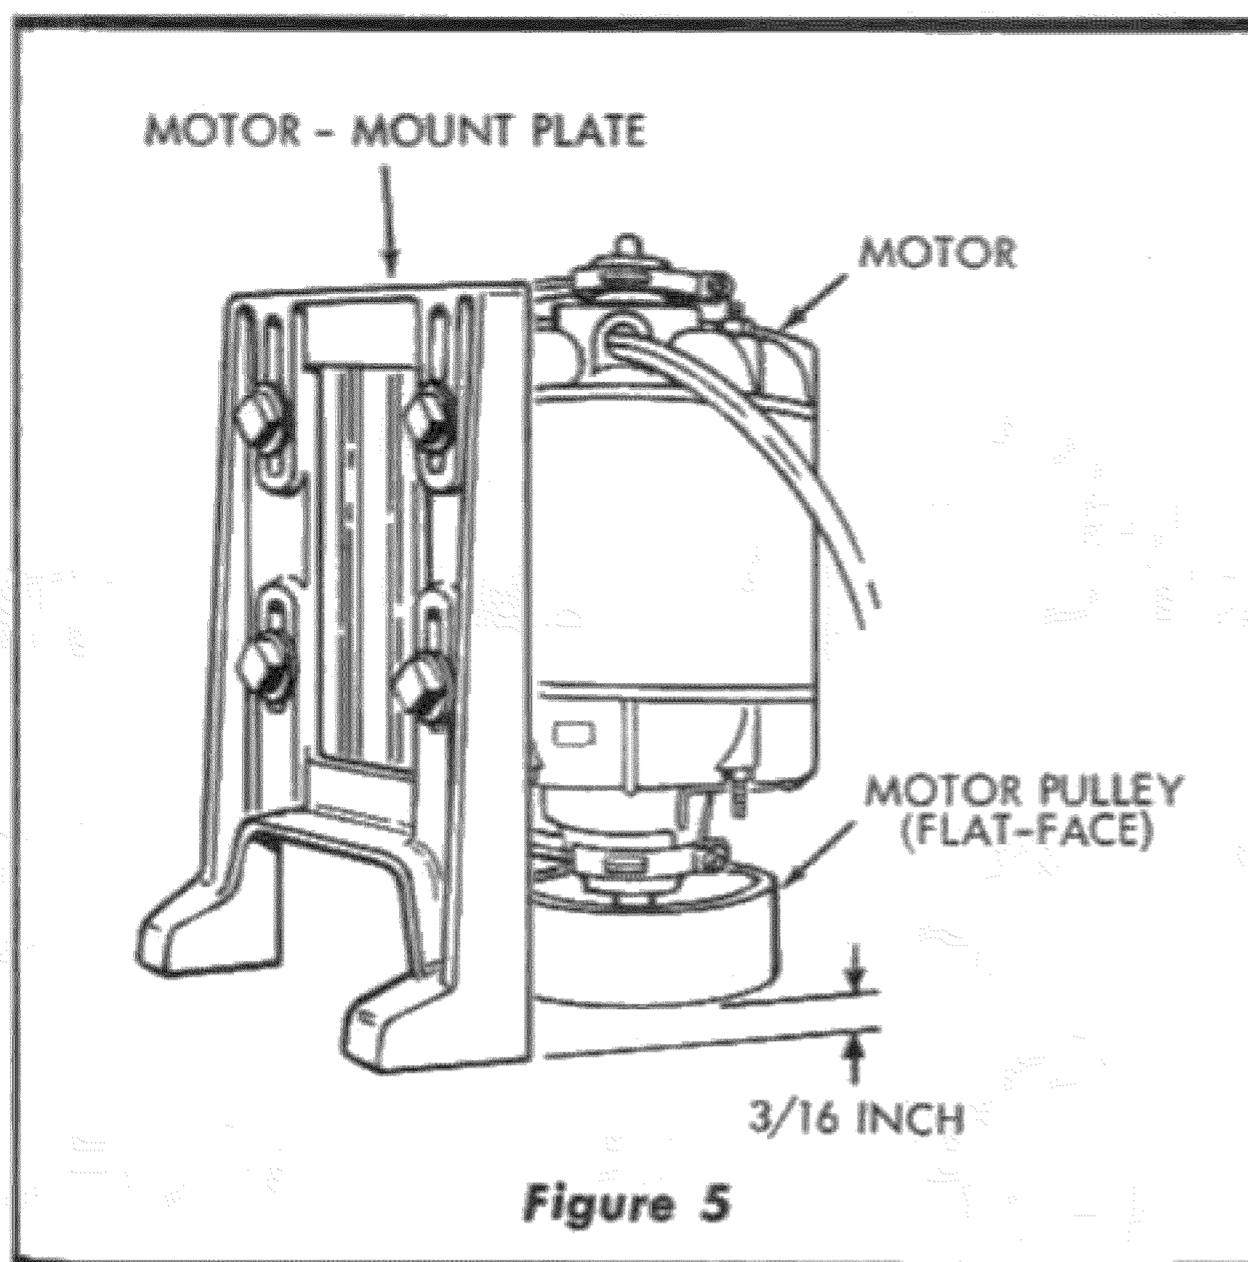

Figure 5
8. Attach the motor to be used on the shaper to the motor mount plate. (See figure 5.) Use the four square-head motor-mount bolts (5/16-18 x 1-inch) and eight washers. (One washer is placed under the head and one under the nut of each bolt. Leave these bolts finger tight for final motor positioning later.)
10. Position motor on motor mount plate to provide a distance of 3/16-inch from mounting edge of motor mount plate. (See figure 5.) Tighten the four motor mount bolts securely and recheck for correct positioning.